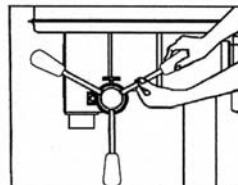

fig.8
* Screw knob on each feeding handle, install Then into hub of pinion shaft. Fig. 8.